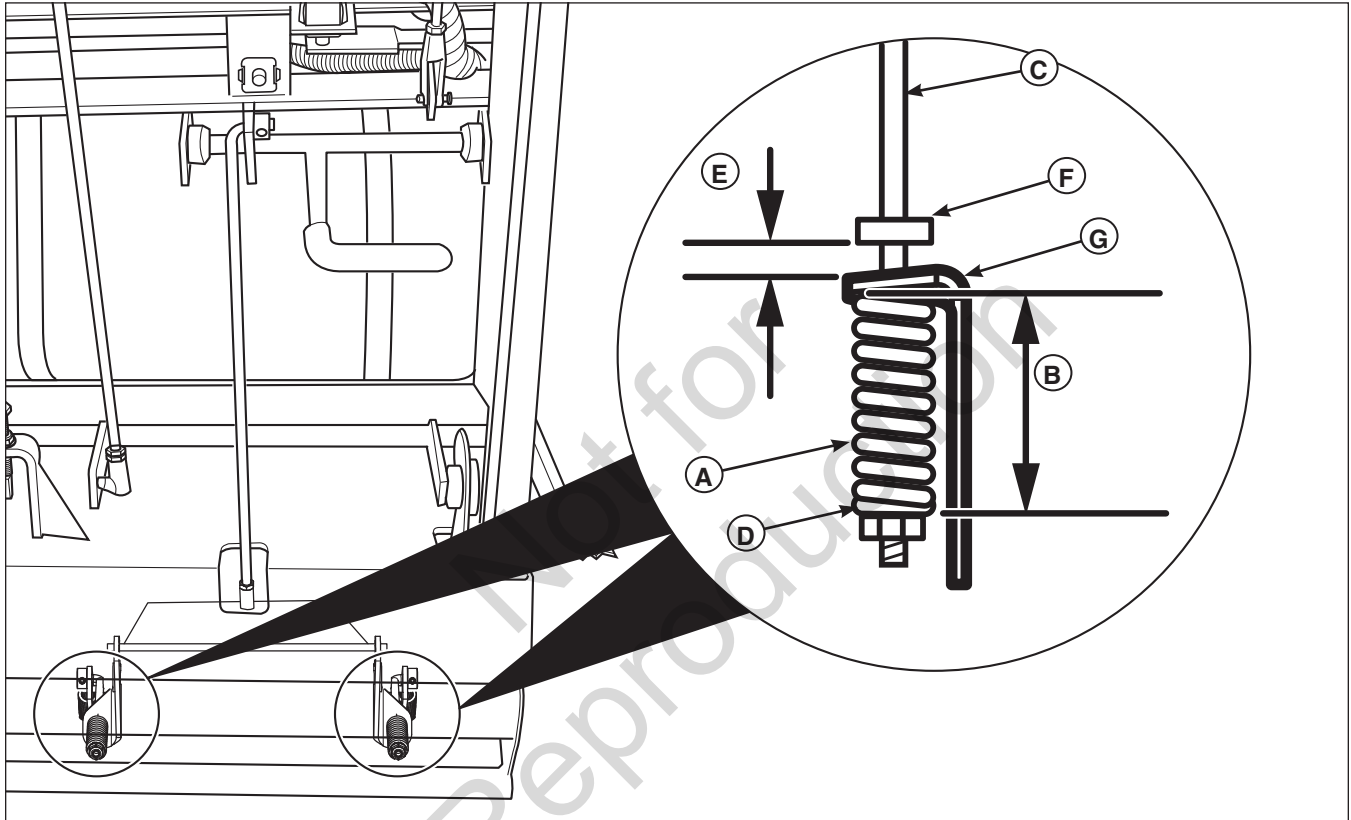

Figure 23. Parking Brake Adjustment
2. Locate the brake springs (A, Figure 23) underneath the rear of the machine.
4. Measure the distance between the back of the brake pivot link (G) and the front edge of the set collar (F). The measurement should be 1/8" (0,32 cm). If not, position the set collar until the measurement equals 1/8" (0,32 cm).